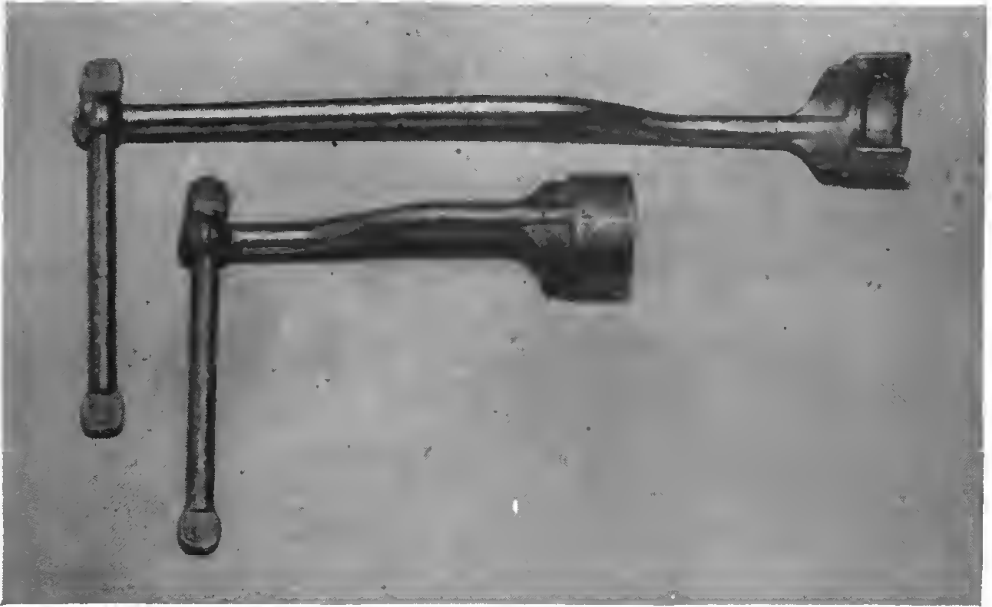

Figure 29. Spark-plug elbow wrenches.
i. SPARK-PLUG ELBOW WRENCH. (1) A spark-plug elbow wrench is shaped like an open-end wrench with the handle at 90° to the head of the wrench. The handle is fastened permanently to the wrench and may be either long or short. (See fig. 29.)
(2) This wrench is used to fasten the lead wires to the spark plugs. An ordinary open-end wrench cannot always be used because of lack